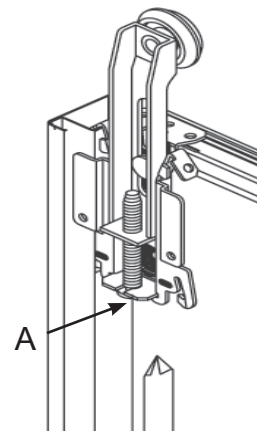

FIGURE 7
Use Phillips screwdriver for vertical adjustment at (A), plumbing left door to left jamb, right door to right jamb (Figure 7). (Screw is self-locking in any position.)